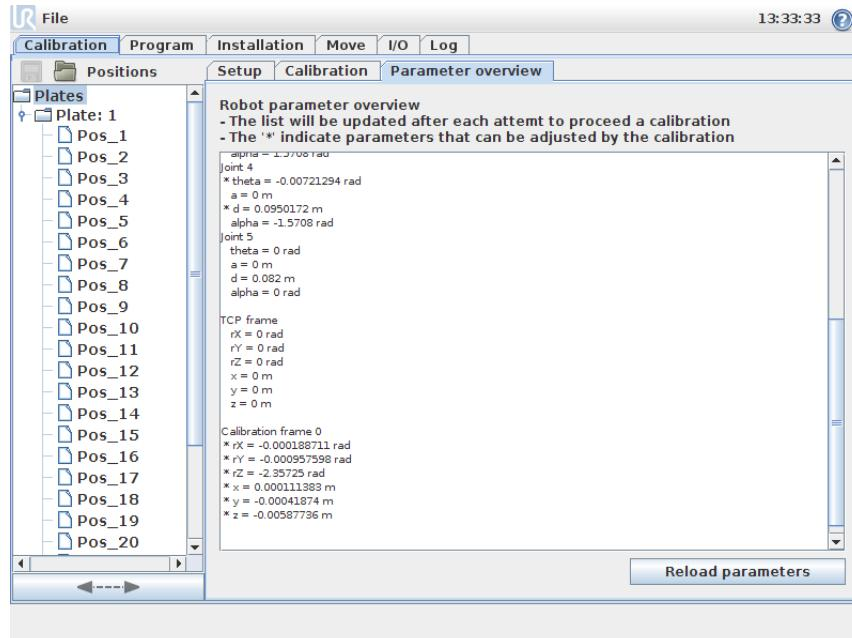

Figure 1.11: The identified parameters are displayed in the "Parameter overview".
- (19) The found parameters can be viewed in the "Parameter overview" tab, see Figure 1.11.